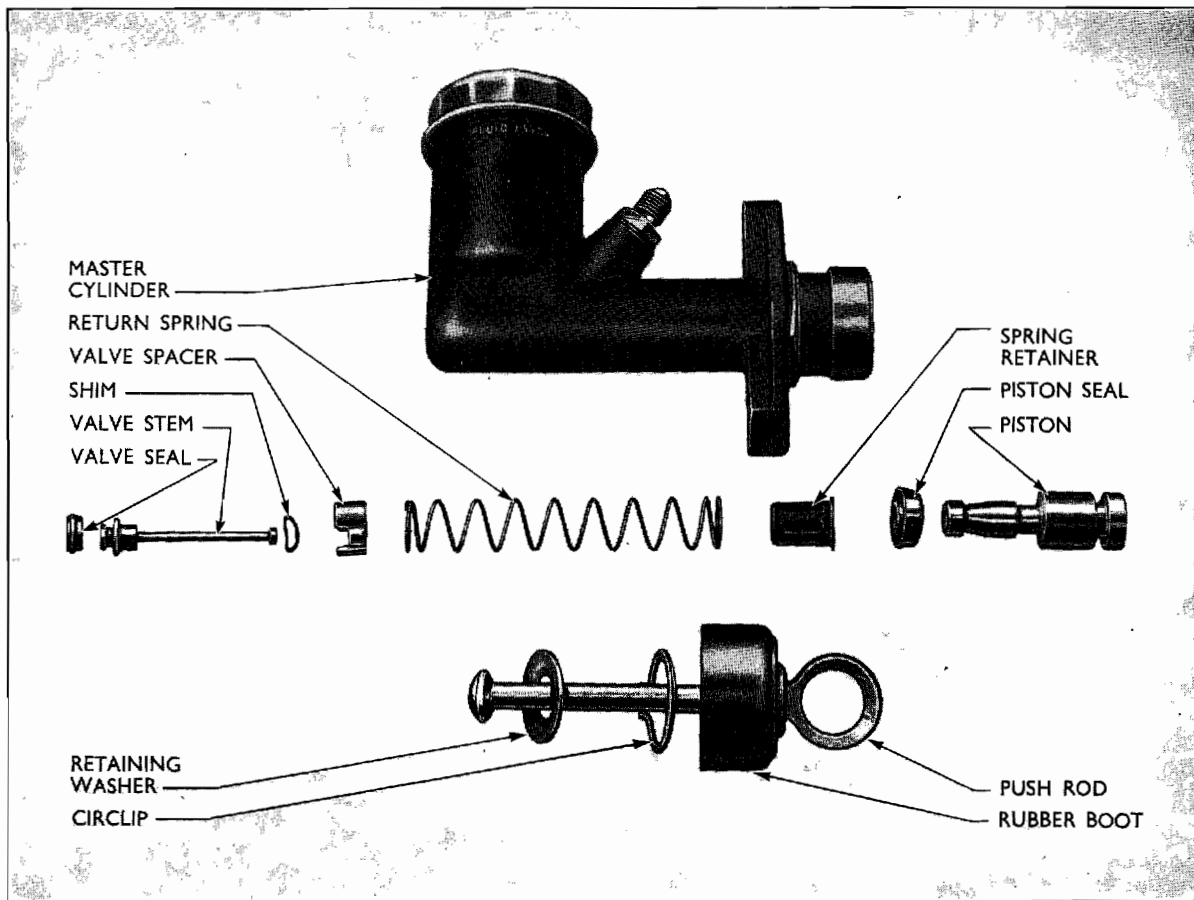

Fig. 14
3. Slide the shim, the valve spacer, with the legs over the valve seal, and the return spring, in this order, over the valve stem, see Fig. 14.